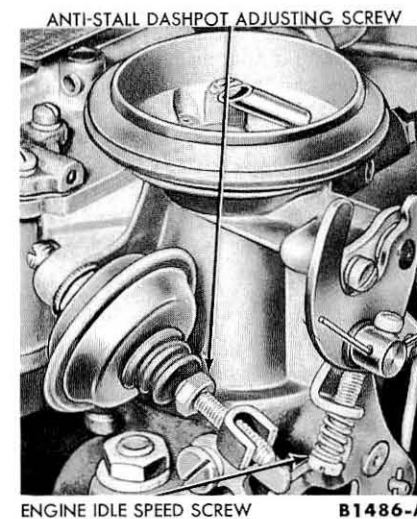

FIG. 18—Single-Barrel Anti-Stall Dashpot Adjustment
1. With the engine idle speed and mixture properly adjusted, and the engine at operating temperature, turn the anti-stall dashpot adjustment screw in or away from the dashpot plunger (Fig. 18).